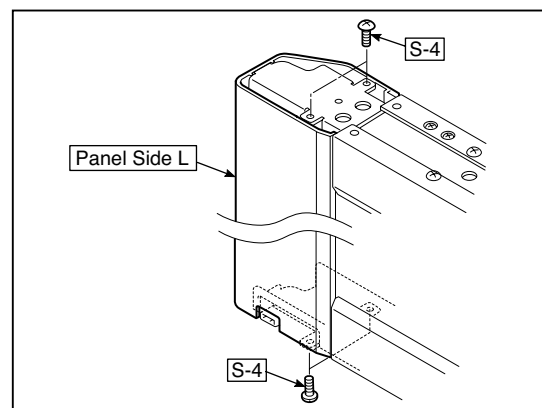

Fig.10
### 4) Remove the Panel side L. (See Fig. 10)
- 1.Remove the “S-4” screws shown in the figure10.